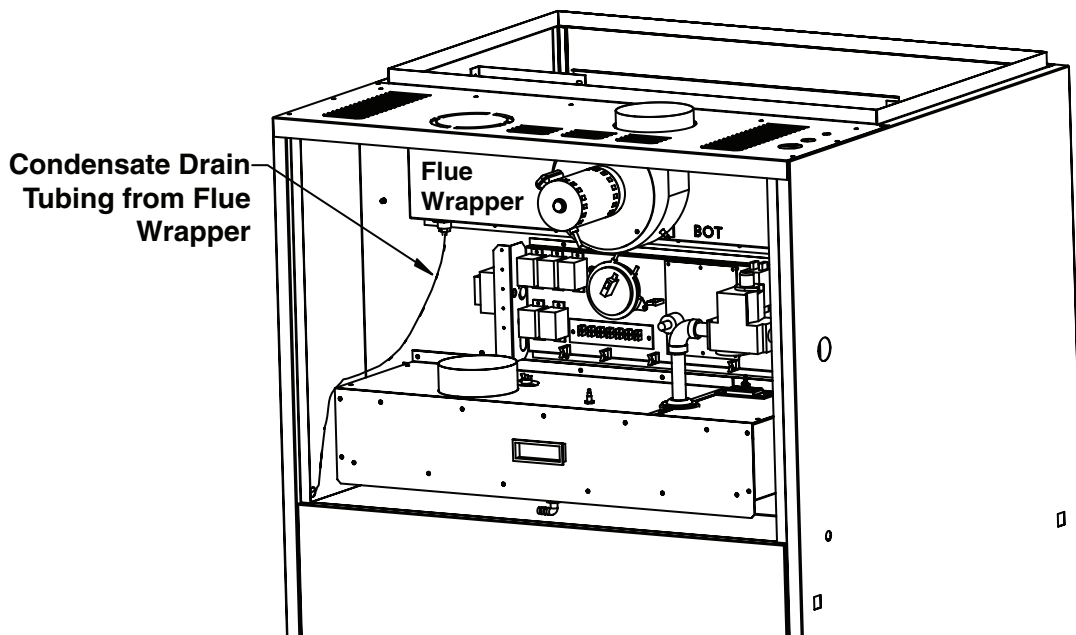

Figure 23. Flue Wrapper Condensate Drain
- **Flue wrapper condensate drain:** If equipped with a makeup air option to allow inlet air less than 35°F (option AD4), the flue wrapper will have a condensate drain (see Figure 23). The condensate drain tubing exits through an opening in the side panel. Connect it into either the burner or coil drain or directly into a sanitary drain.